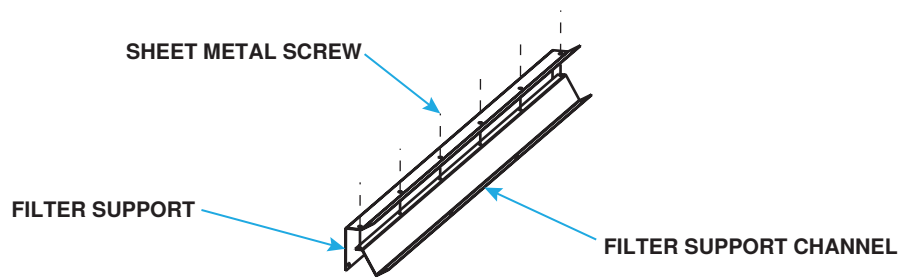

Figure 8. Assemble Filter Supports
1. Assemble two filter support assemblies using two filter supports, two filter support channels, and sheet metal screws as shown in **Figure 8**.